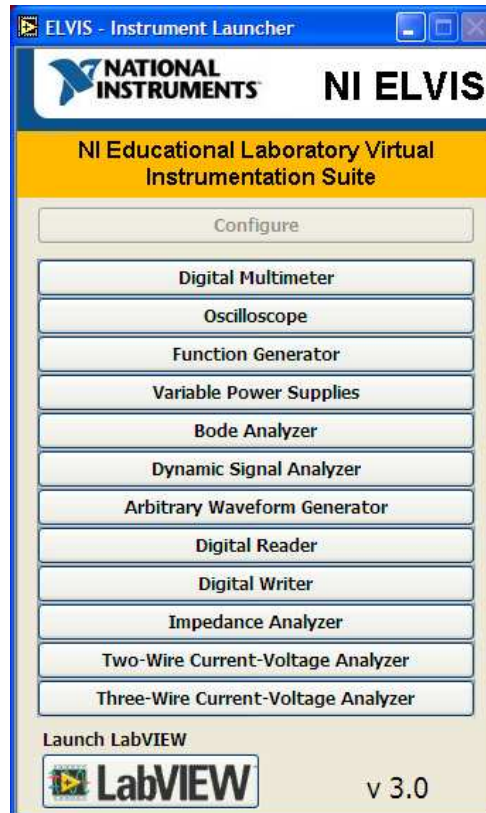

Figure 2.7: NI ELVIS Instrument Launcher window
3. Log in to your NOVELL account and start the NI ELVIS software. The ELVIS Instrument Launcher will pop up on the screen. See figure 2.7.